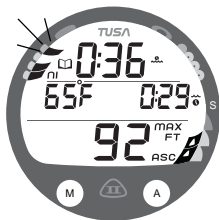

Fig. 45 - LOG DATA 1
**Log Data 1**, information includes (Fig. 45):